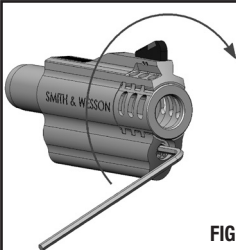

FIGURE 24
1. Insert a 2.5mm hex wrench into the screw under the compensator, (below the muzzle opening) and turn **CLOCKWISE** until the lock screw stops (approximately 2-3 turns) (FIGURE 24).